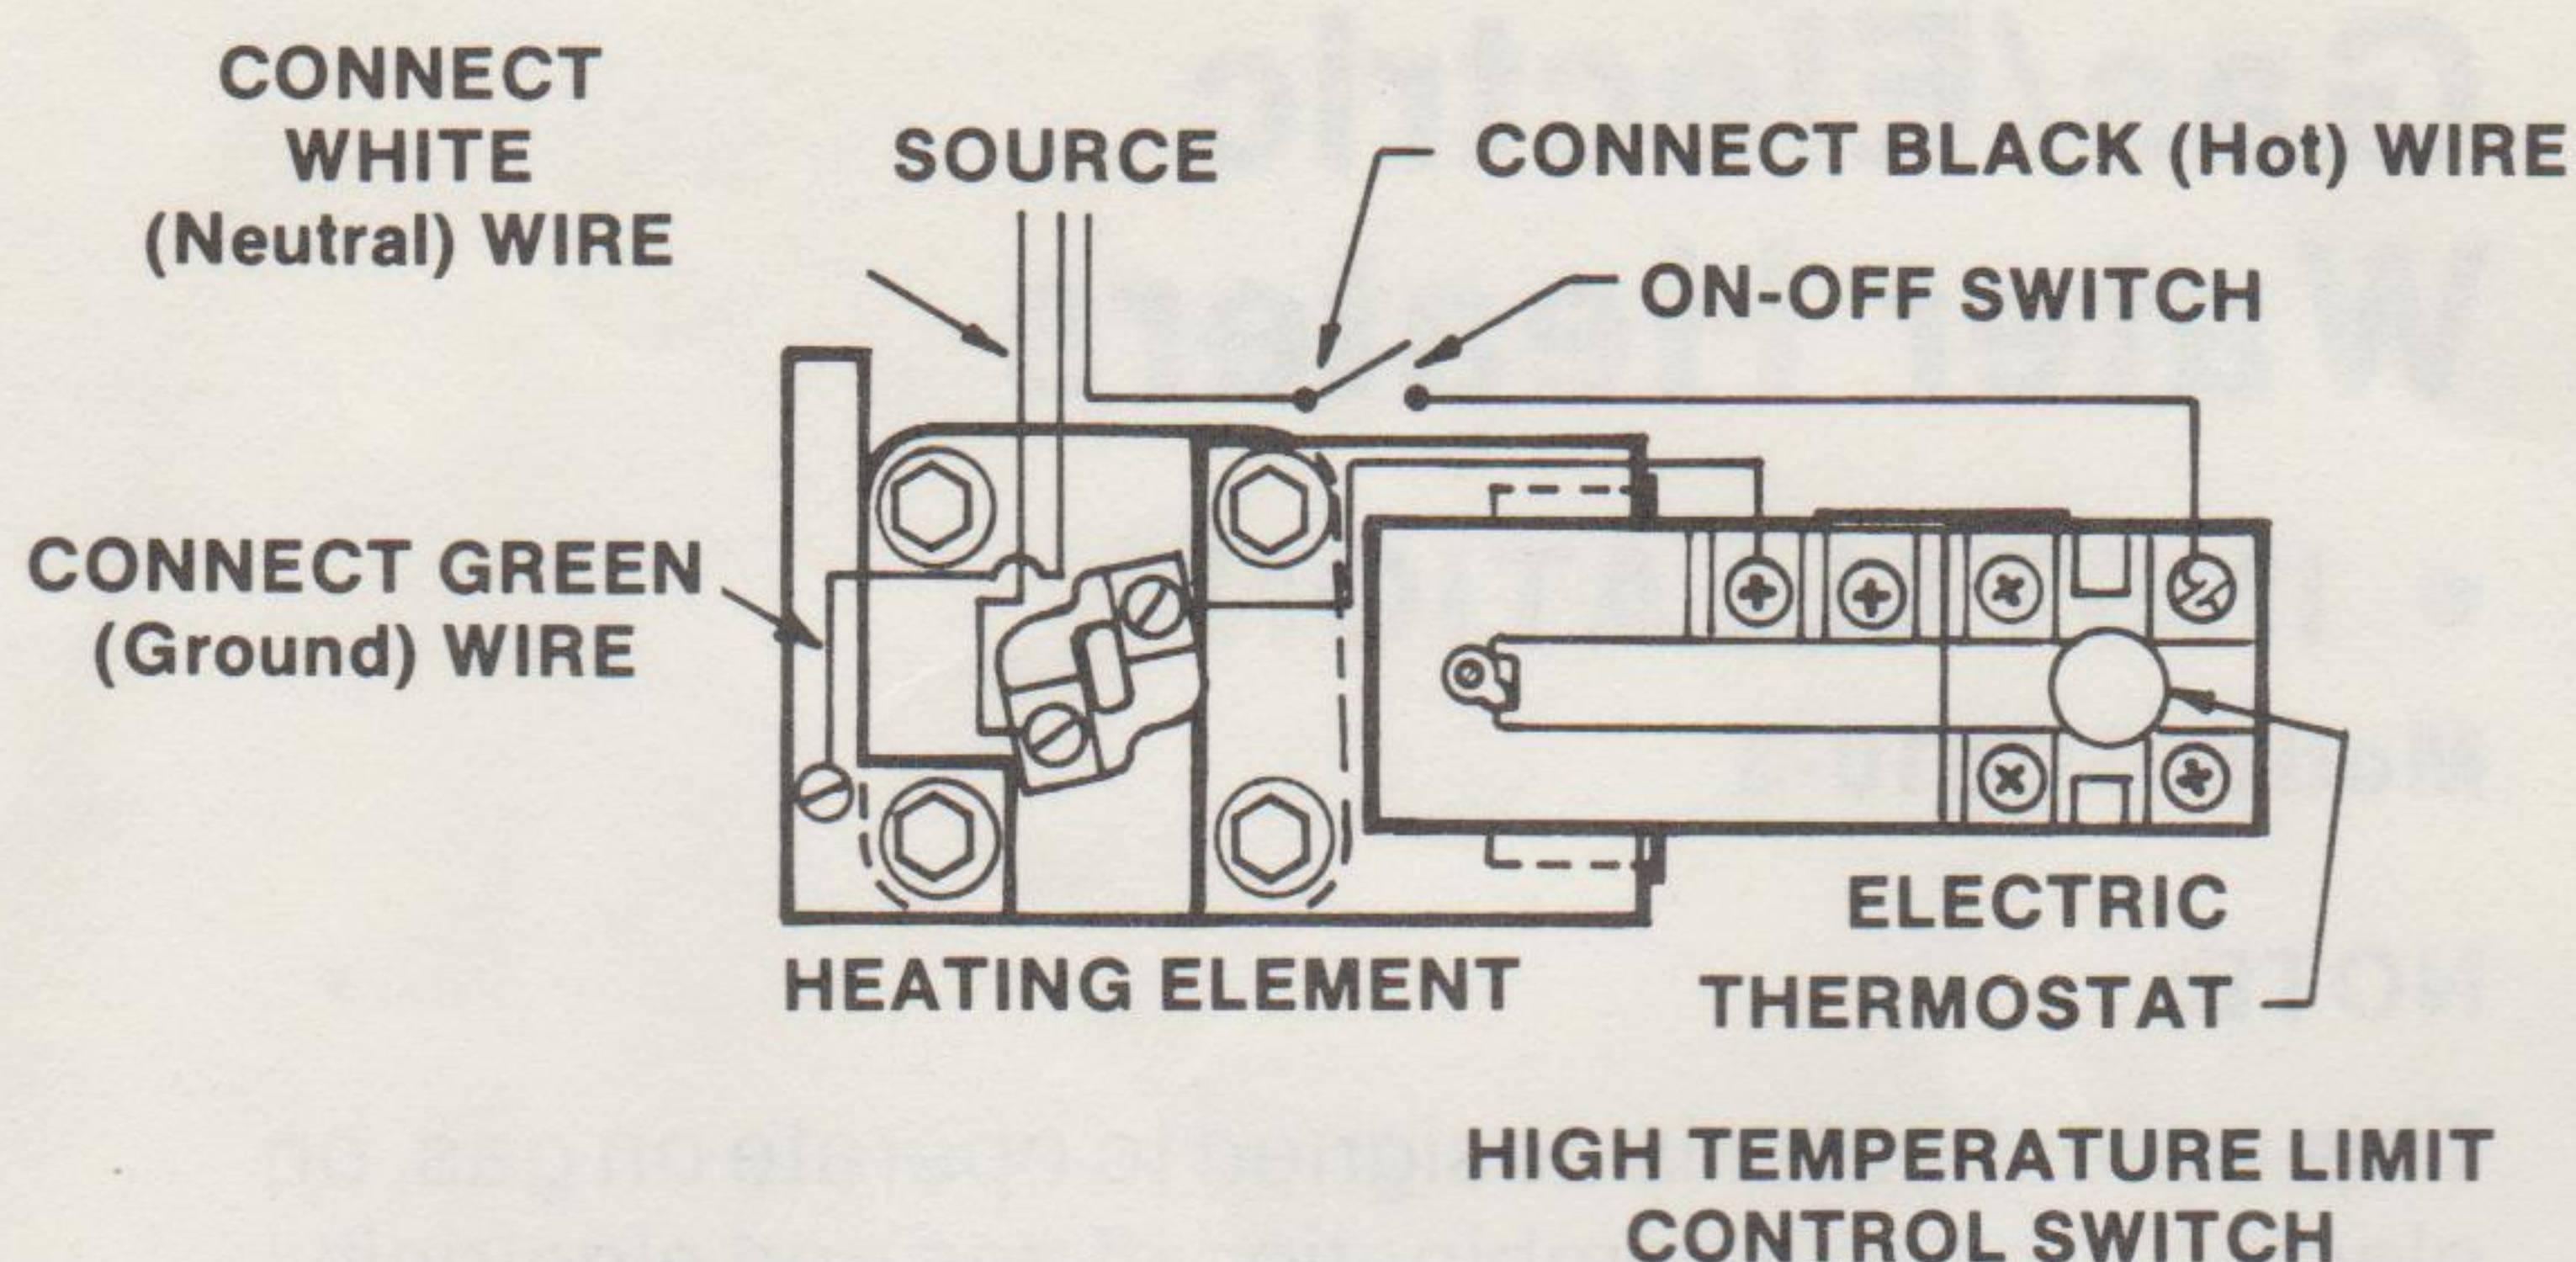

FIGURE 15
2. Make electrical connection as shown in wiring diagram. (Figure 15)